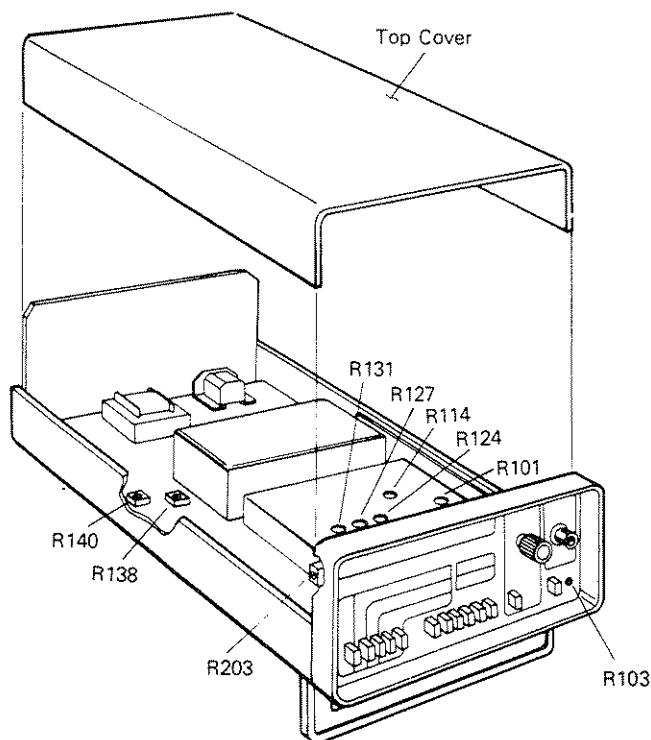

Figure 6-1. Top Cover Removal and Calibration Adjustment
2. Monitor the output of U109 with the $5\frac{1}{2}$ -digit DMM (Item B, Table 6-1). Refer to Figure 6-1.
4. Disconnect the line cord from AC power and connect the H-P 6227B (Item F) supply in place of the battery pack. Be sure the supply is off. Replace F101. (Refer to Figure 6-1.)